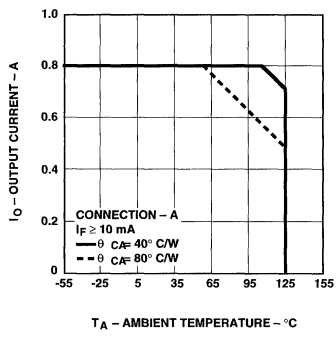
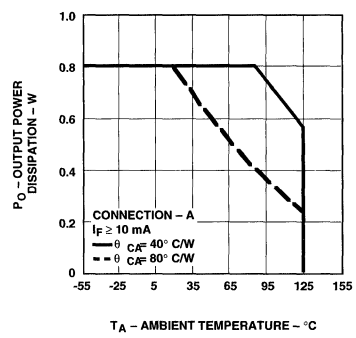

Figure 2. Maximum Average Output Current Rating vs. Ambient Temperature.
Figure 4. Output Power Rating vs. Ambient Temperature.
- For rating, see Figure 4. The output power P_O rating curve is obtained when the part is handling the maximum average output current I_O as shown in Figure 2.